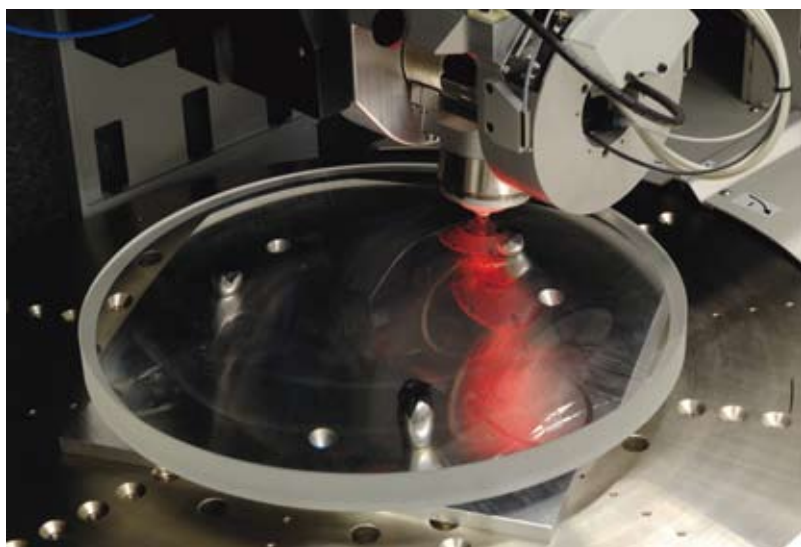

Figure 3. Asphere metrology on NANOMEFOS.
- Manufacturing of high precision aspherical and freeform optics. Aspherical and freeform optical elements have a large potential for reducing optical aberrations as well as the number of elements in complex high-performance optical systems. However, manufacturing a single piece or a small series of aspherical and freeform optics has for long been limited by the lack of flexible metrology tools. With the NANOMEFOS metrology tool (see Figure 3) the form of aspheres and freeforms up to 500 mm in diameter can be measured with an accuracy better than 10 nm rms.